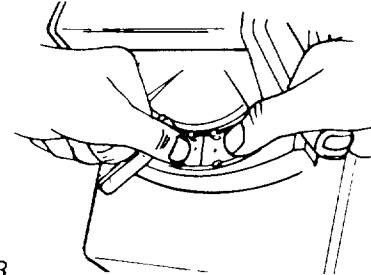

Fig. 63
21. Install bevel scale indicator by inserting one end into the opening in the yoke. Slide the indicator to one side and push until it snaps in place. Tabs are located on the outside of the opening. Adjust indicator by sliding red line to 0° position. (Figure 63)